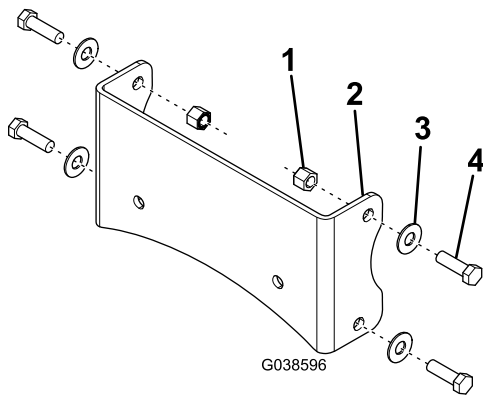

Figure 3
5. Loosely secure the rear winch bracket to the vehicle front A-arm uprights using 4 bolts (3/8 x 1-1/4 inch), 4 washers, and 4 locknuts (3/8 inch) as shown in Figure 3.